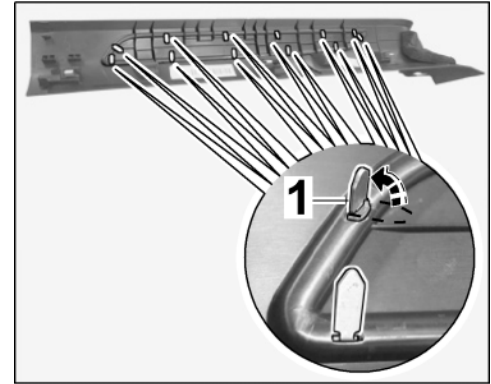

Figure 18
- 3.1.1 Bend up the tabs on the door-sill guard on the underside of the A-pillar trim panel (lower). ⇒ *Figure 18-**Arrow***